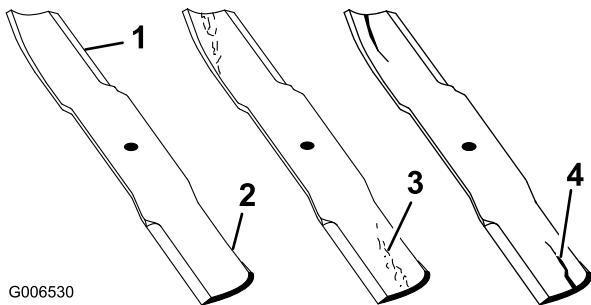

Figure 49
1. Inspect the cutting edges (Figure 49). If the edges are not sharp or have nicks, remove and sharpen the blades. Refer to Sharpening the Blades.
2. Inspect the blades, especially the curved area (Figure 49). If you notice any cracks, wear, or a slot forming in this area (item 3. in Figure 49), immediately install a new blade.